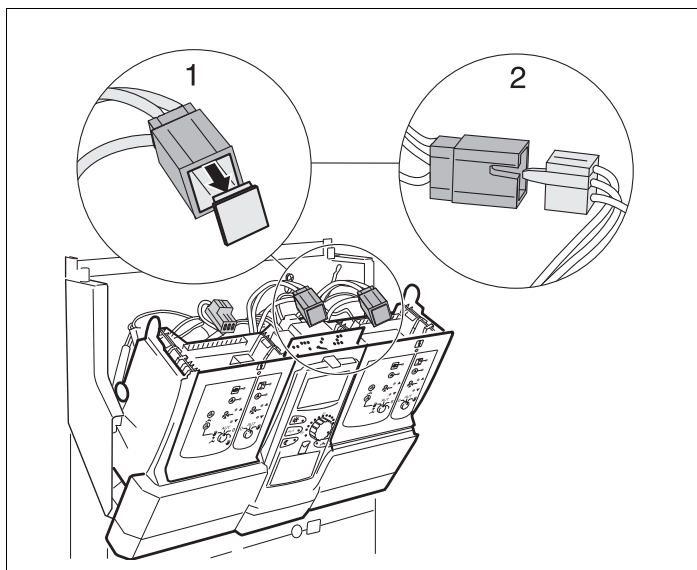

Fig 8 Connecting power to slot 2
- Remove dummy plug (→ Fig. 8, [1]) of the three-pole plug (cable loom).
- Plug in 230 V module connecting plug to the three-pole plug (→ Fig. 8, [2]).